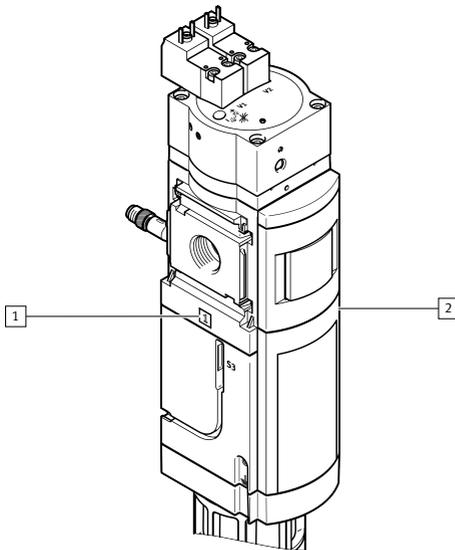

Fig. 7: Flow direction
- Observe the flow direction from port 1 to port 2. Numbers **1** and **2** on the housing → Fig. 7 are provided for orientation.